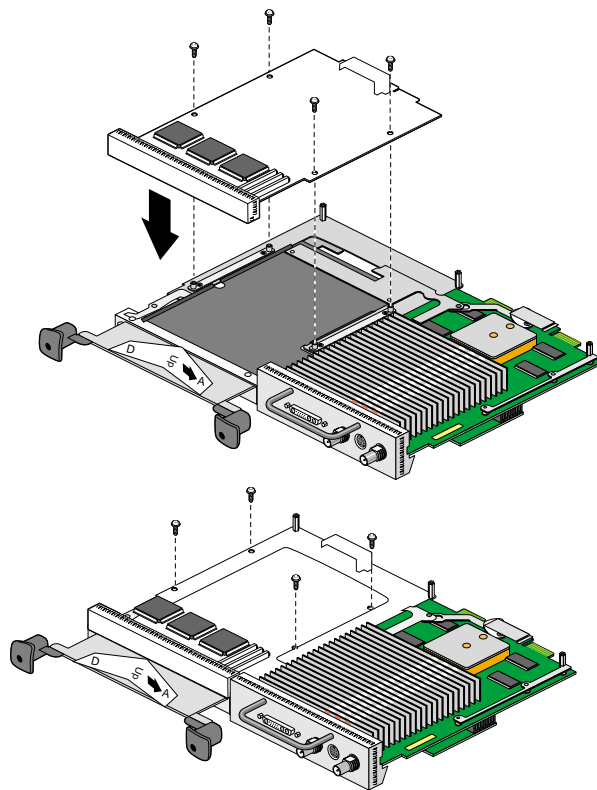

Figure 23 Installing the Screws
2. Install the screws (as shown in Figure 23), tightening the board to the standoffs.